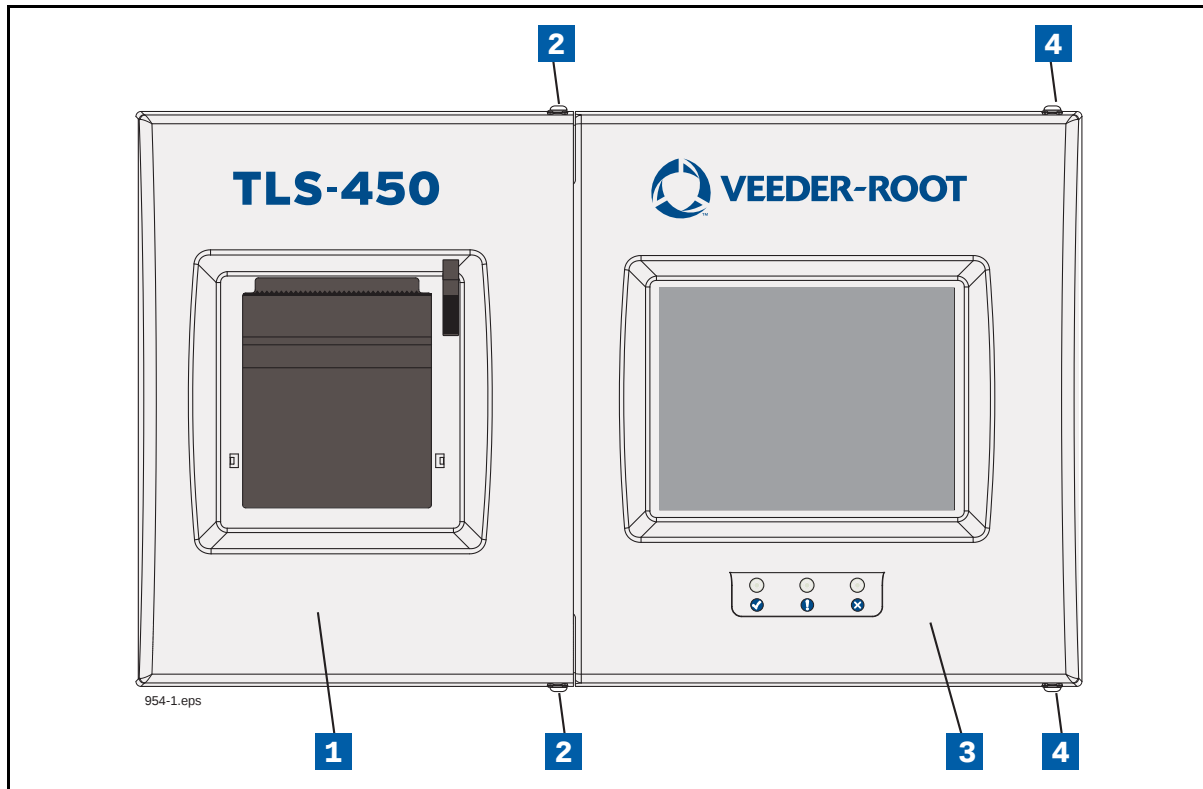

Figure 37. Front doors
1. Open both front doors of the console (see Figure 37).
Legend for numbered boxes in Figure 37